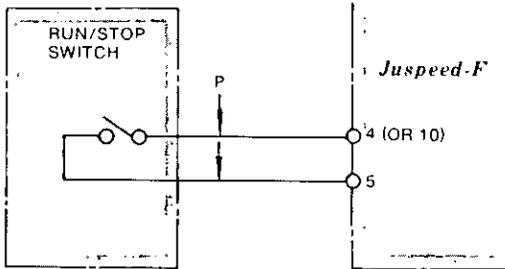

Fig. 4 Connections of RUN/STOP Switch
(1) SIGNAL LEADS
Use the twisted lead for connections to signal terminals ④ to ⑩. The signal line must be separated from main circuit terminals T1 (U), T2 (V), T3 (W), L1 (R), L2 (S), and L3 (T) and large-current electrical circuit (230 V, 120 V relay sequence circuit). See Fig. 4. Lead length should be 66 feet (20 meters) or less.